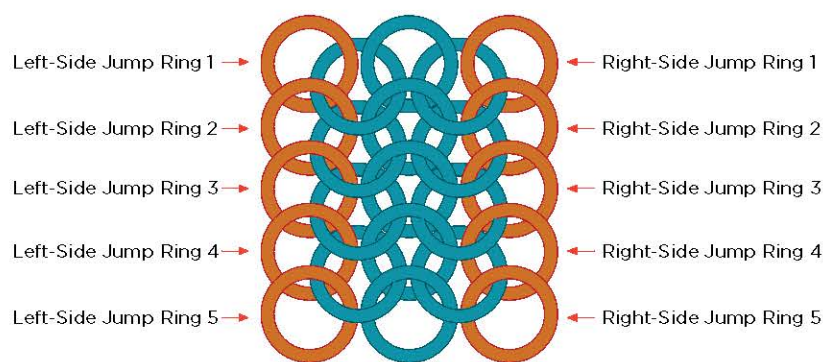
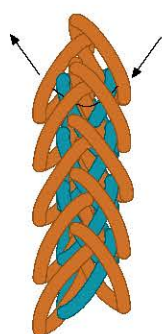

FIG. 6
FIG. 8
8. Roll the European 4-in-1 piece side to side (not end to end) to form a tube (**FIGS. 6 AND 7**). Note that the side jump rings form nested Vs (**FIG. 8**).
(page 22), as marked in **FIG. 8**. Close the jump ring (**FIG. 9**).